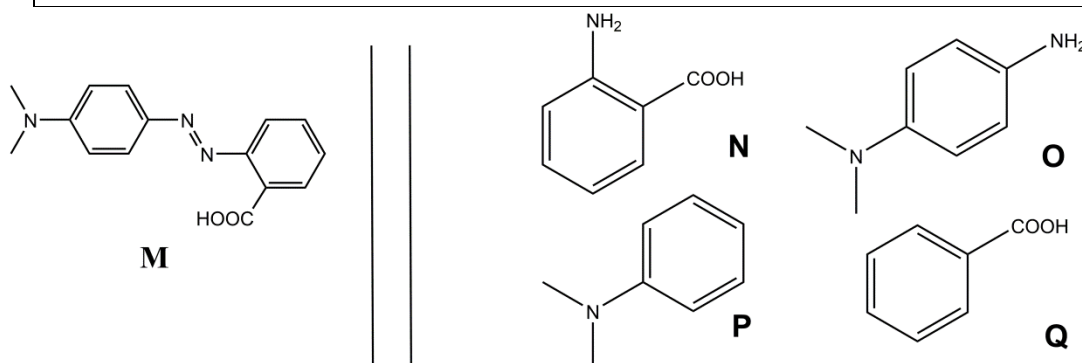

Fig. 1 – Possible reactants for the synthesis of **M**.
2. **M** can be synthesized in two steps from simple reactants (Fig. 1). **Choose** among the suggested reactants (**N** to **Q**) the ones that can provide **M** with very high regioselectivity. Sodium nitrite ( $NaNO_2$ ) in cold aqueous hydrochloric acid is used as the reagent for the first step of the synthesis.